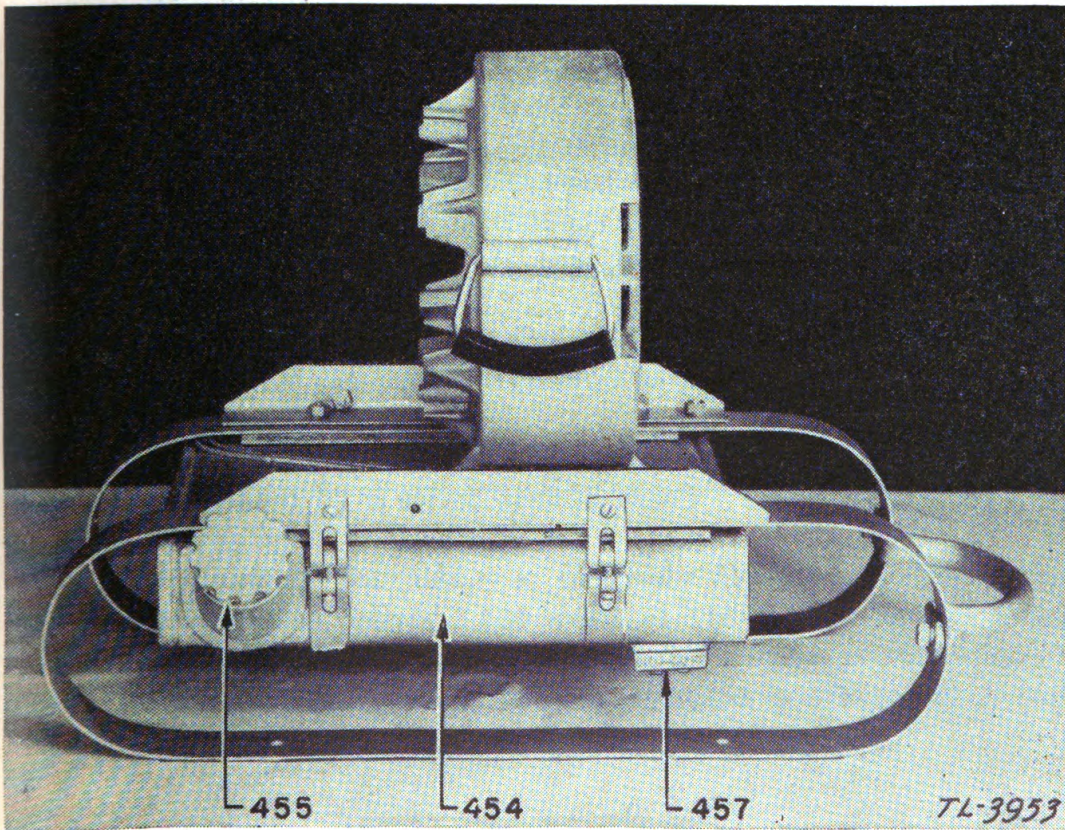

FIGURE 4.—Mounting assembly.
*c. Mounting and fuel tank assembly.*—This assembly is designed for mounting the gasoline engine and generator to make an integral unit. The assembly consists of a fan housing, spring steel skid mountings, and fuel tank. (See fig. 4.)
(1) *Fuel mixture.*—Remove the fuel tank cap (455, fig. 4) and fill cap twice (capacity  $\frac{1}{4}$  pint) with SAE 40 motor oil, thoroughly mixing with 1 gallon of gasoline in a clean can or other container. *For best results use regular gasoline (not high-test).* Lubrication for the entire engine is obtained by mixing oil with gasoline, and it is extremely important that the oil be *thoroughly mixed* with the gasoline. Pour the mixture into the fuel tank (454, fig. 4).